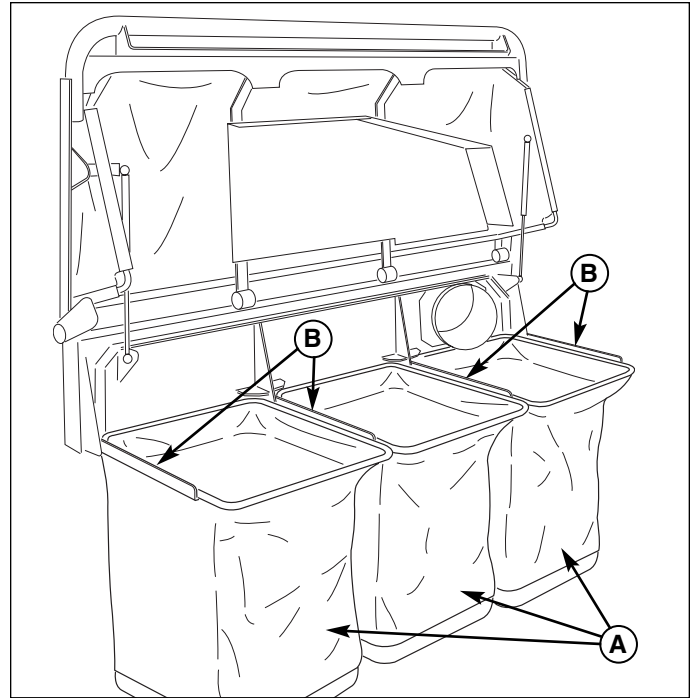

Figure 25. Install the Collector Bags
1. Raise the collector hood and slide the collector bags (A, Figure 25) onto the frame rails (B).